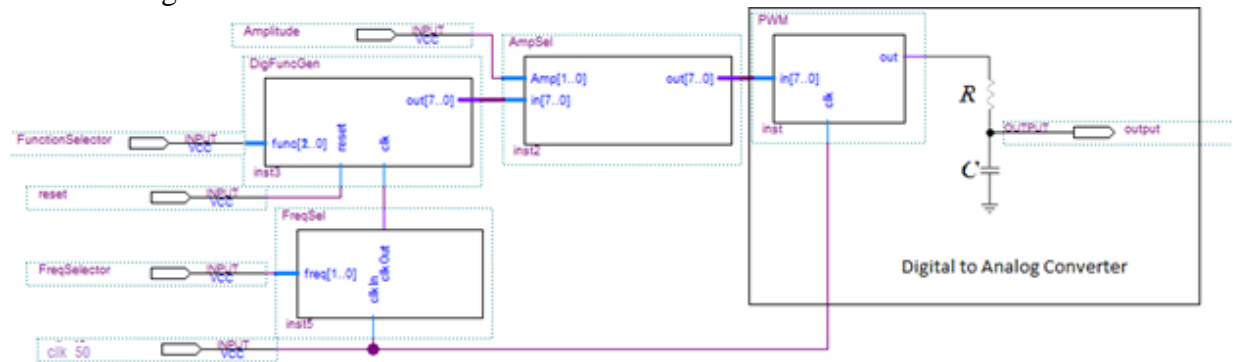

Figure 1 Schematic of the function generator
In this experiment you will design a Function Generator. Function Generator is an electronic equipment used to generate different types of electrical waveforms over a wide range of frequencies. Some of the common waveforms produced by the function generator are the sine, square, saw-tooth and arbitrary shapes. Schematic of a function generator is shown in Figure 1.
3. Create the digital function generator with Verilog and connect it to other parts of system according to Figure 1. Verify its correctness on oscilloscope.